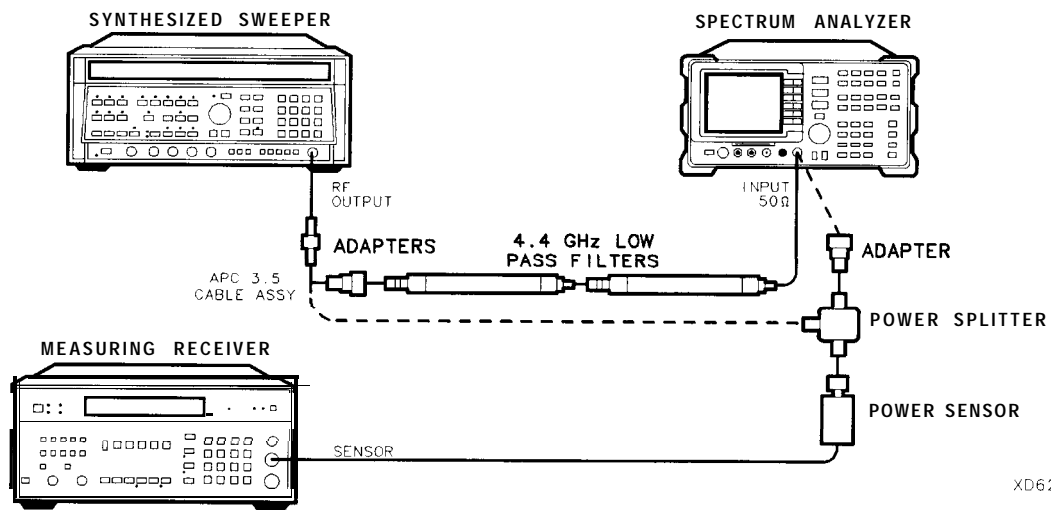

Figure 2-53. Second Harmonic Distortion **Test Setup, >2.9 GHz**
13. Connect the equipment as shown in Figure 2-53, with the output of the synthesized sweeper connected to the input of the power splitter, and the power splitter outputs connected to the spectrum analyzer and the power sensor.
24. Connect the equipment as shown in Figure 2-53 with the filters in place.